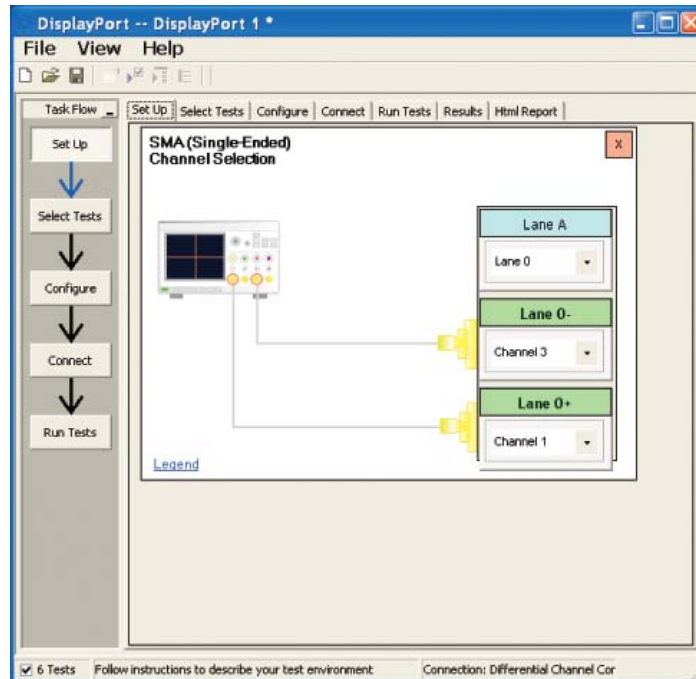

Figure 8. Test environment setup: lane and oscilloscope assignment screen
- Oscilloscope connection: this screen allows you to assign oscilloscope channels and device lanes to test, see Figure 8.